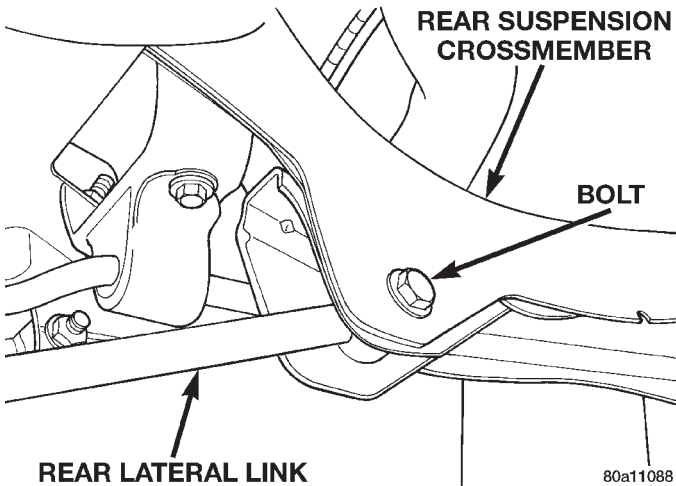

Fig. 34 Lateral Link Attachment To Rear Suspension Crossmember
(4) Remove the bolt (Fig. 34) and nut attaching the lateral link to the rear suspension crossmember.
(5) Remove rear lateral link from vehicle.
(1) Install the lateral link and the attaching nut and bolt at rear suspension crossmember (Fig. 34). **The rear lateral link is to be installed with the**